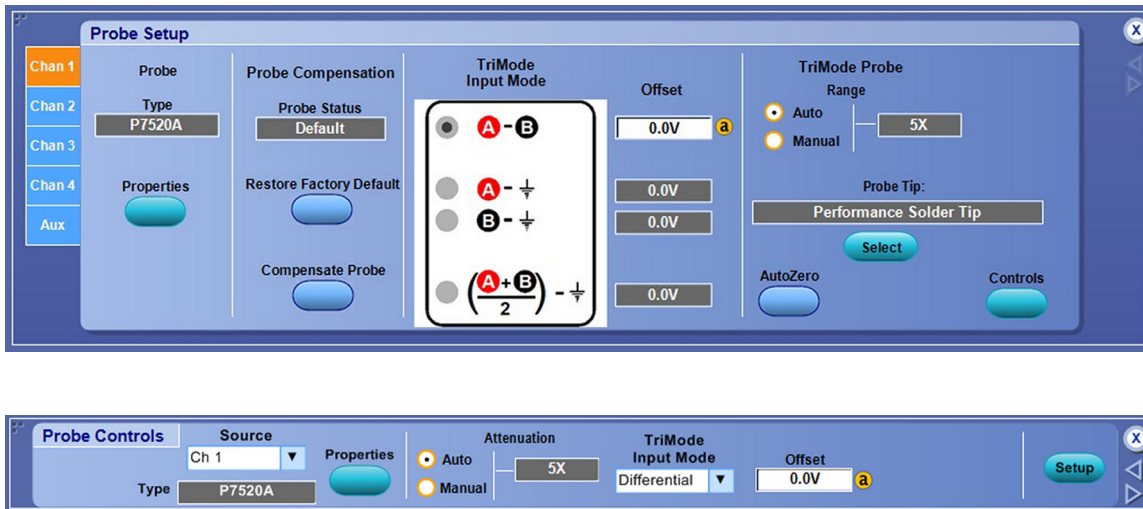

Figure 1: Probe Setup and Probe Controls screens
5. Select the tip you are using and click **OK**. The tip selection that you make here is retained until you change it. The Probe Tip Selection screen does not appear again at power-on; you must access it through the Probe Setup screen. (See Figure 1 on page 6.)
2. From the Probe Setup or Probe Controls screen, change the Range selection from **Auto** to **Manual**. (See Figure 1 on page 6.) You can also change the attenuation setting from these screens.